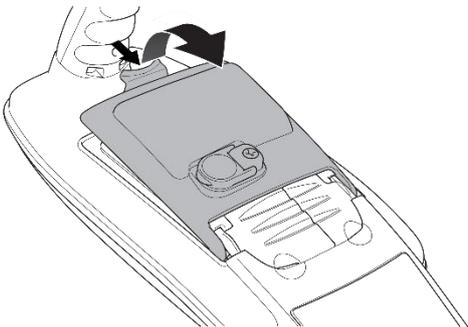

Figure 4.1 Opening the battery compartment
- 1 Open the battery compartment using the release catch (figure 4.1)